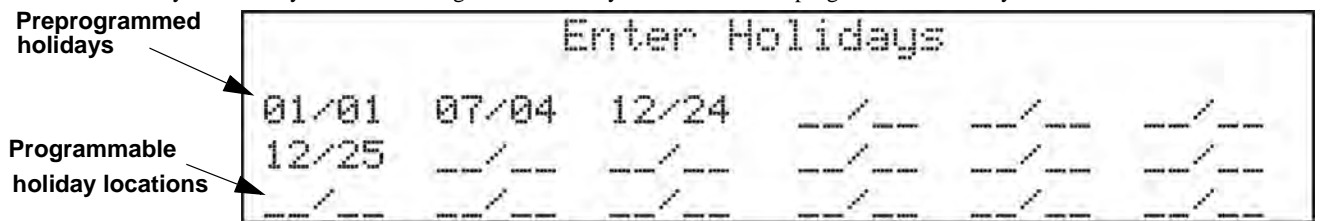

Figure 9.12 Edit Holidays Screen
4. Select 3 for Holiday Days. A screen similar to that shown in Figure 9.12 will display.